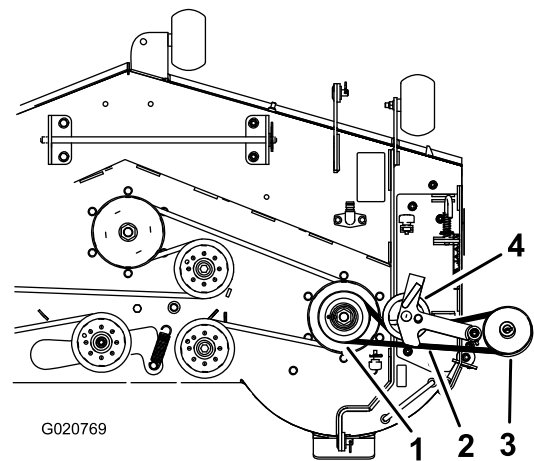
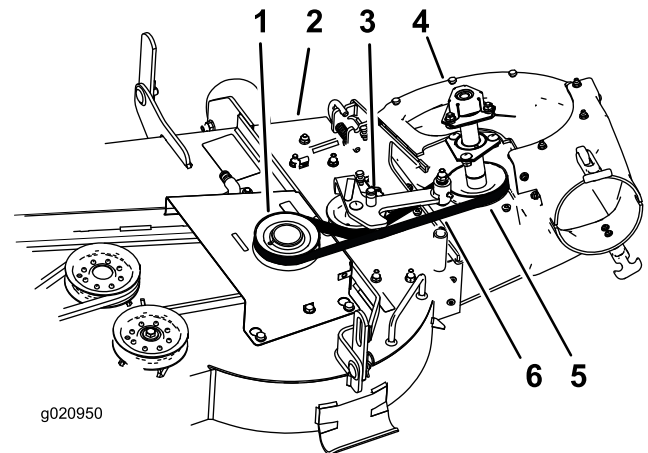

Figure 17
Figure 18
1. If necessary, install the belt onto the blower pulley (Figure 18).
- If needed, install the belt around the blower pulley (Figure 17 and Figure 18). Refer to 5 Installing the Blower Assembly (page 12).
- Route the belt around the drive pulley as illustrated in Figure 17 and Figure 18.
- Temporarily route the belt beneath the idler pulley (Figure 18).
- Pull the spring loaded idler pulley away from the fixed spring post, and route the belt around the mower deck pulley (Figure 18).